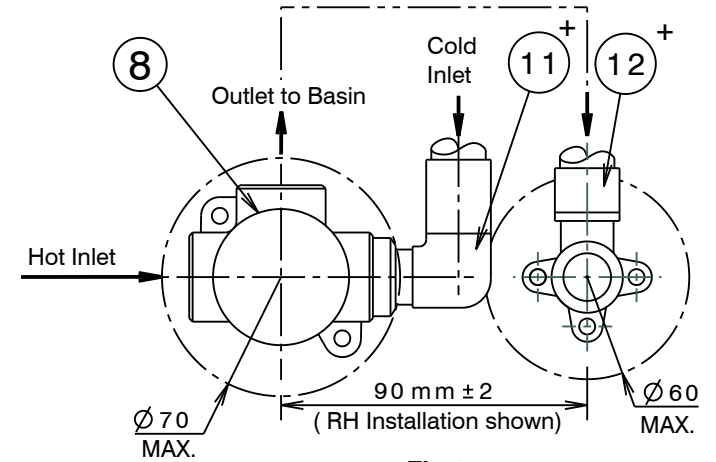

Fig. 2
Note : A suitable elbow fitting (11⁺) should be fitted to the inlet connection adjacent to the basin/bath outlet (19) (Fig.2). Check all connections for leaks.
All care should be taken that the wall elbow (12⁺) is mounted accurately in line with, and at a distance of 90mm±2 from the adjacent mixer body (8) and that it is square to the wall/tile face (Fig.2). Connect the mixer body outlet to the wall elbow (12⁺). **Note:** Pipework and fittings are not supplied.